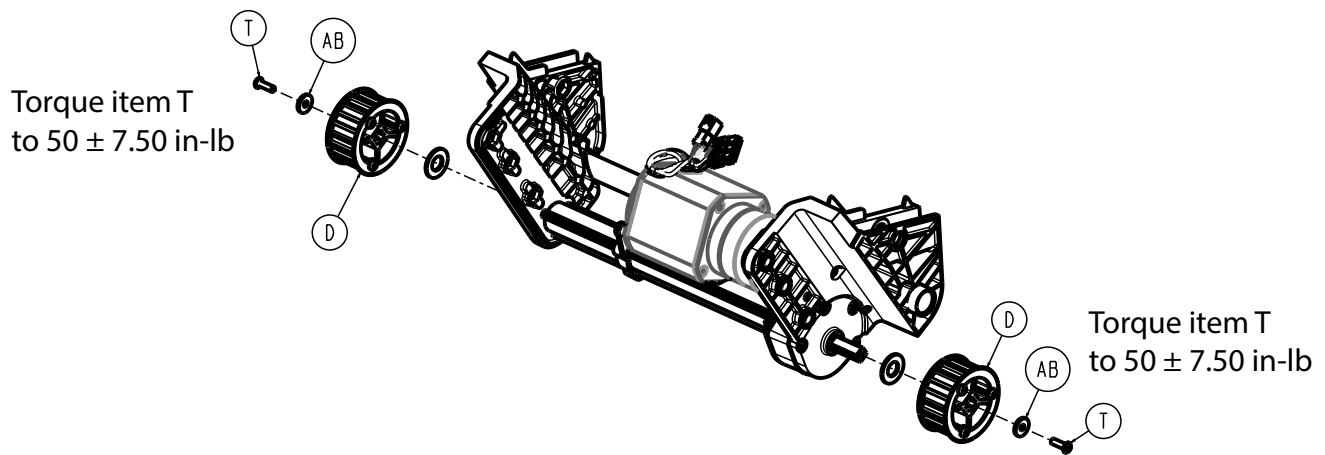

Figure 28 –
4. Using a T25 Torx driver, remove the button head cap screw (T) and washer (AB) that secure the timing pulley (D) to the drive shaft (Figure 28). Save the screw and washer.